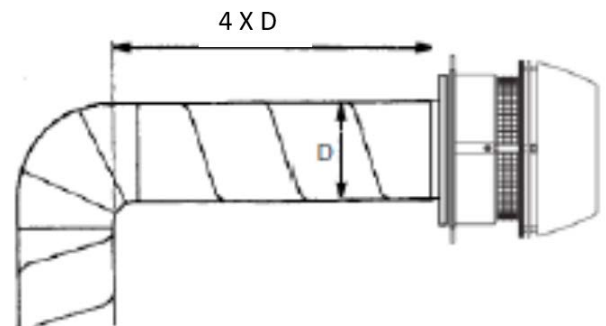

FIGURE 35
7. In order to achieve optimal performance and energy consumption for the RS Fan, the duct must be installed as shown below and the distances observed. From the last elbow to the termination point the distance must be 4 times the diameter of the flue. For example, if using 12in flue (12 X 4 = 48in), the distance from the last elbow to the fan termination point should be 48 inches. (**Figure 35**)